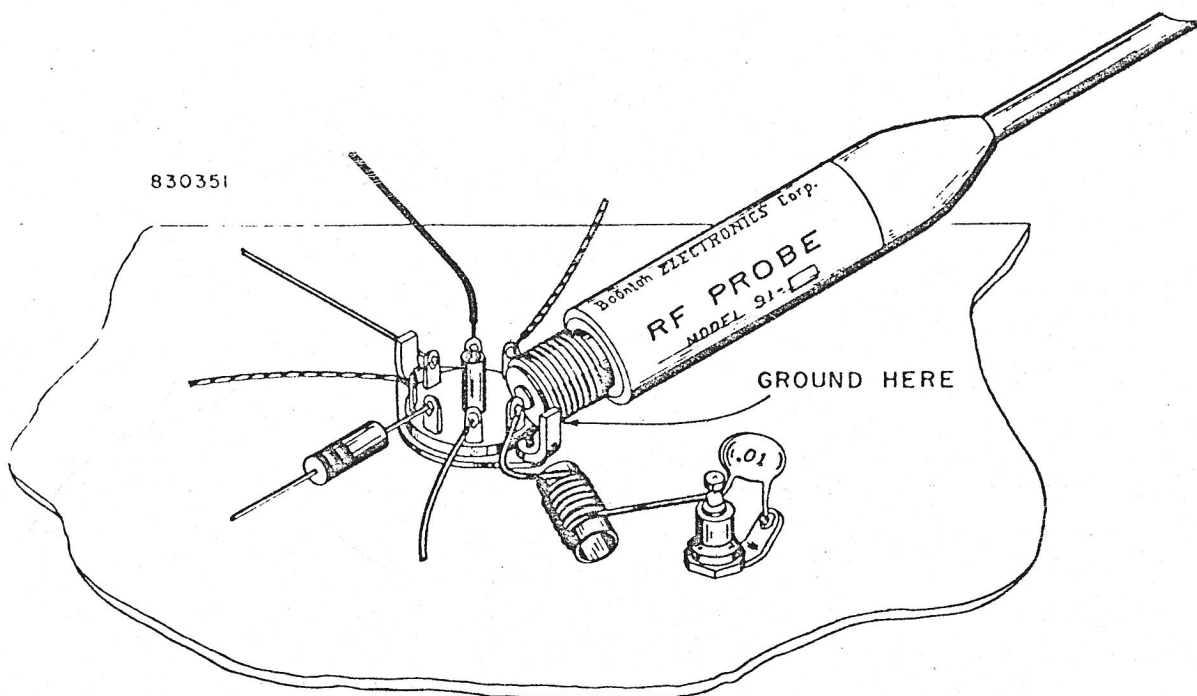

Figure 5. Method for making low-inductance connections to test signal point directly using the RF probe.
3.3.3 Connection for Measurement above 100 MHz. For frequencies above 100 MHz, the probe tip should **NOT** be used with the Model 92C. Connection should be made directly to the center contact of the probe with the ground connection kept as short as possible (see Figure 5).
100 MHz to 250 MHz	Probe without tip (see Figure 5) (supplied)